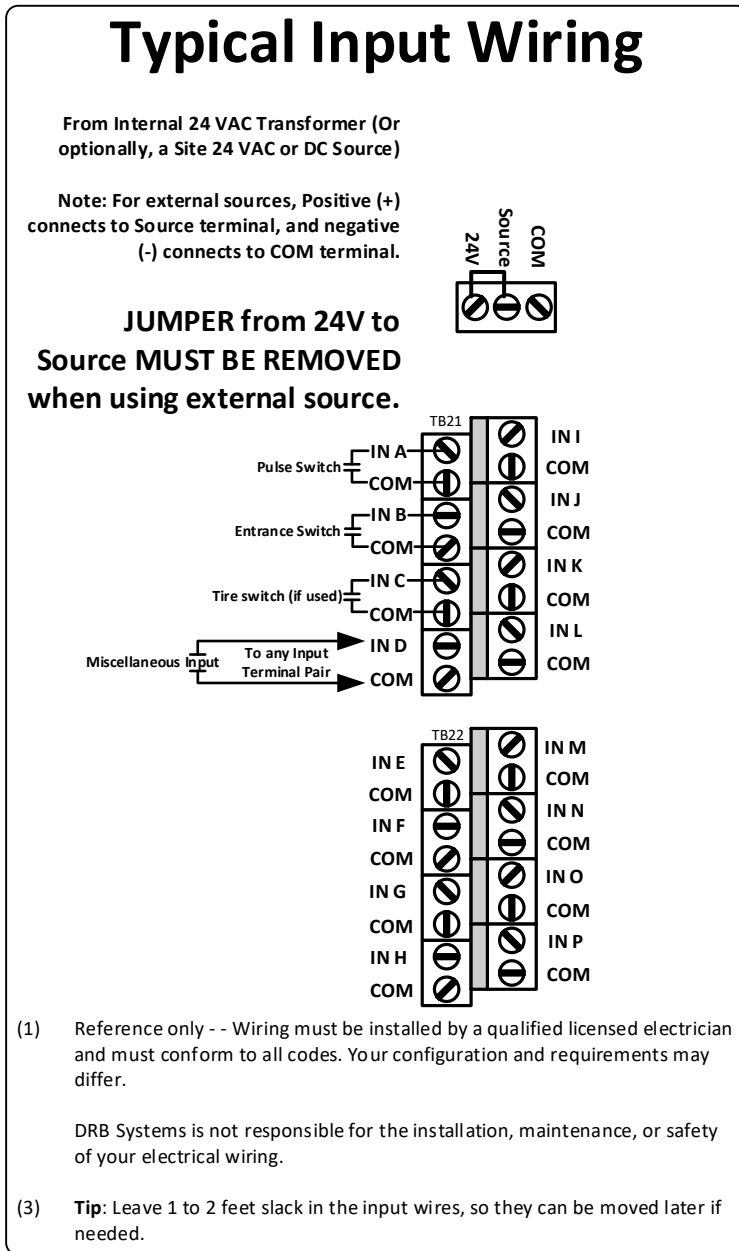

Figure 8: Input Wiring
- 1) Wire all input devices to the **COM** and an Input number/letter terminal (signal) as indicated in Figure 8: Input Wiring.